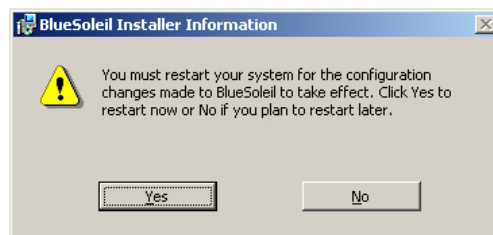

Figure 7-42: Reboot the Computer
Step 10: To complete the chipset driver installation, click **FINISH**. The user is then prompted to select to restart the computer now or later (**Figure 7-42**). For the settings to take effect, the computer must be restarted. Click **Yes** to restart the computer.